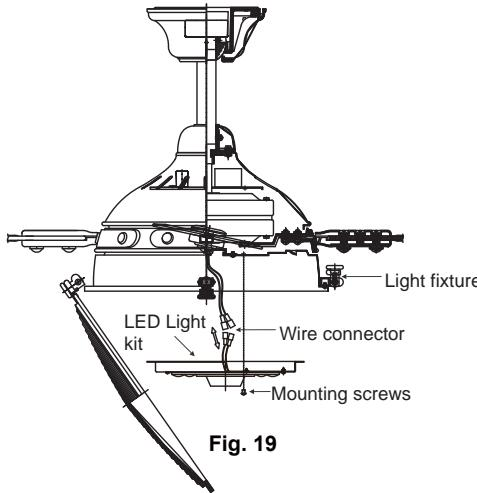

Fig. 19
**Step 1.** Loosen the three mounting screws on the inside of the light fixture and "remove" and save the fourth screw. (**Fig.19**)
**Step 2.** Hold the light plate close to the light fixture and connect the white wires from the light plate and the fan. Follow the same procedure with the black wire connectors: (**Fig. 19**)
**Step 4.** Place the light plate key hole slots over the three screws previously loosened on the light fixture and turn the light plate until it locks in place at the narrow section of the key hole slots. Tighten the three key hole screws and replace the fourth screw previously removed and tighten securely. (**Fig. 19**)